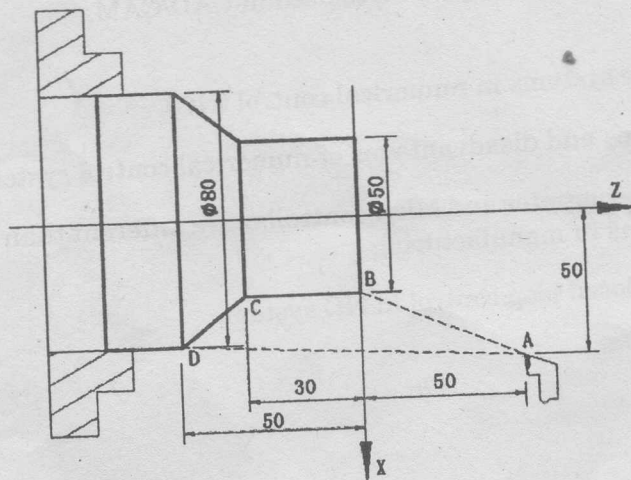

Fig. 2 (All dimensions are in mm)
- (d) Write the CNC program for the work-part shown in Fig. 2 :